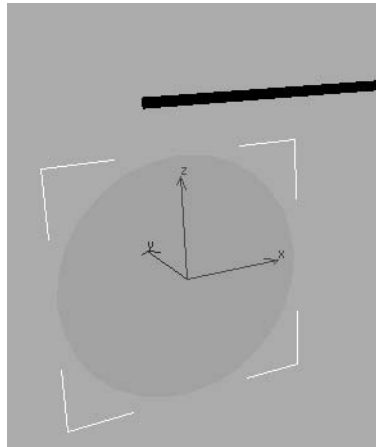

Figure 2.28
6. Set the Perspective viewport back to Smooth + Highlights by right-clicking the viewport name, which is Perspective, and selecting Smooth + Highlights from the menu. You may also press F3 to toggle between the two display modes. You should now see a flat solid disc as shown in Figure 2.28.